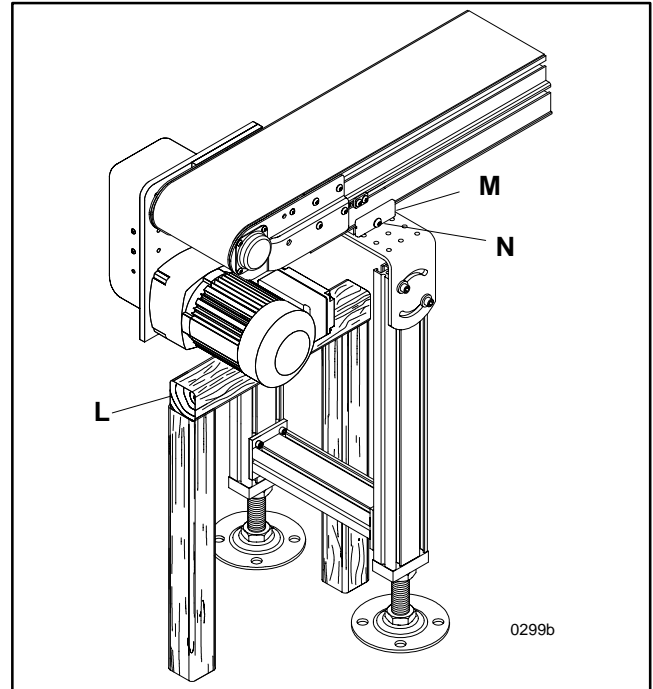

Figure 33
<p>To prevent injury, make sure all electrical power has been disconnected before you perform any maintenance, make any adjustments or replace any components. In addition, the weight of the gearmotor is all on one end of the conveyor. This could cause the conveyor and stand to tip over when the anchor components are removed. There should be some form of extra support (L of Figure 33) for the gearmotor while the conveyor belt is being changed.</p>
2. Referring to Figure 33, safely and temporarily support the conveyor section with a sturdy support mechanism (L) (such as wooden blocks or a sawhorse).
3. Remove and retain the mounting clamp plate screw (N of Figure 33) and clamp plate (M) from the both sides of the conveyor.
4. With the clamp plates (M) removed from both sides of the conveyor, carefully raise-up the side opposite the gearmotor and slide the old belt sideways and away from conveyor.